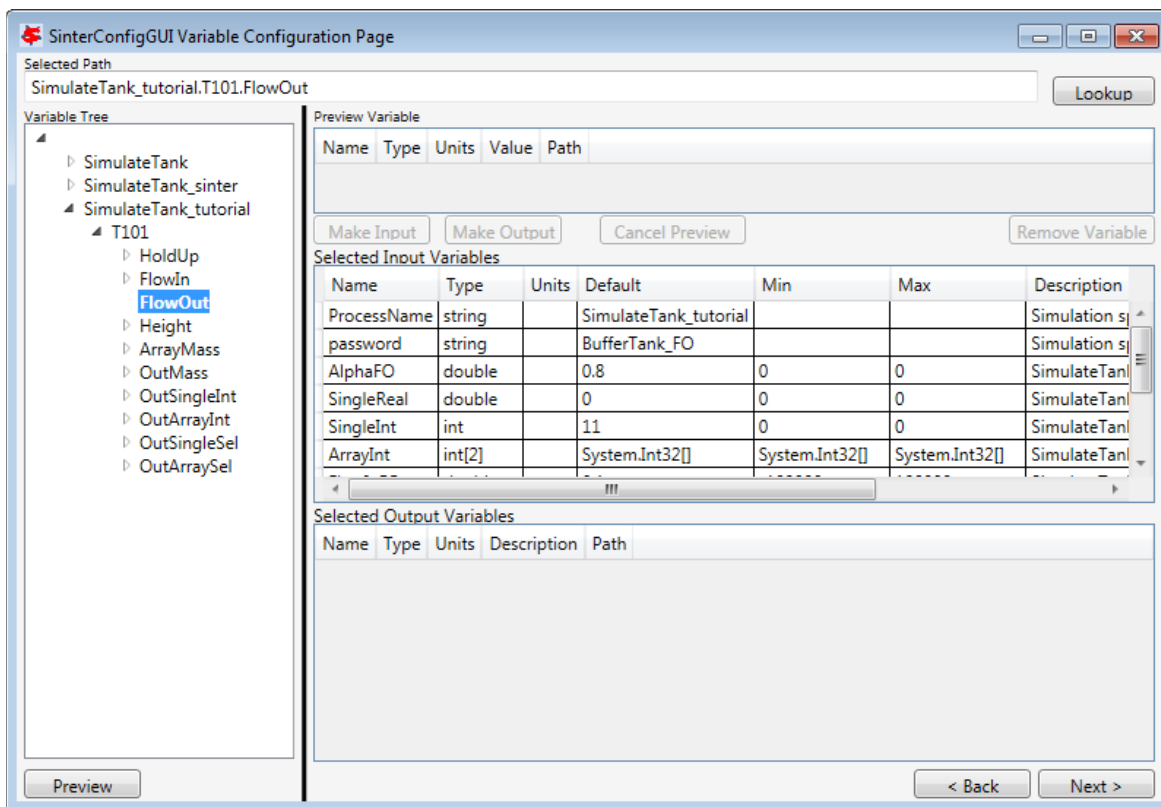

Figure 22: Preview the SimulateTank_tutorial.T101.FlowOut variable.
10. Click “Make Output,” FlowOut is made an output variable as shown in Figure 22.